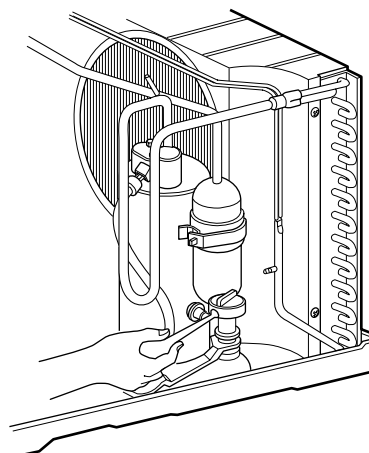

Figure 23
6. Remove the compressor. (See Figure 23)